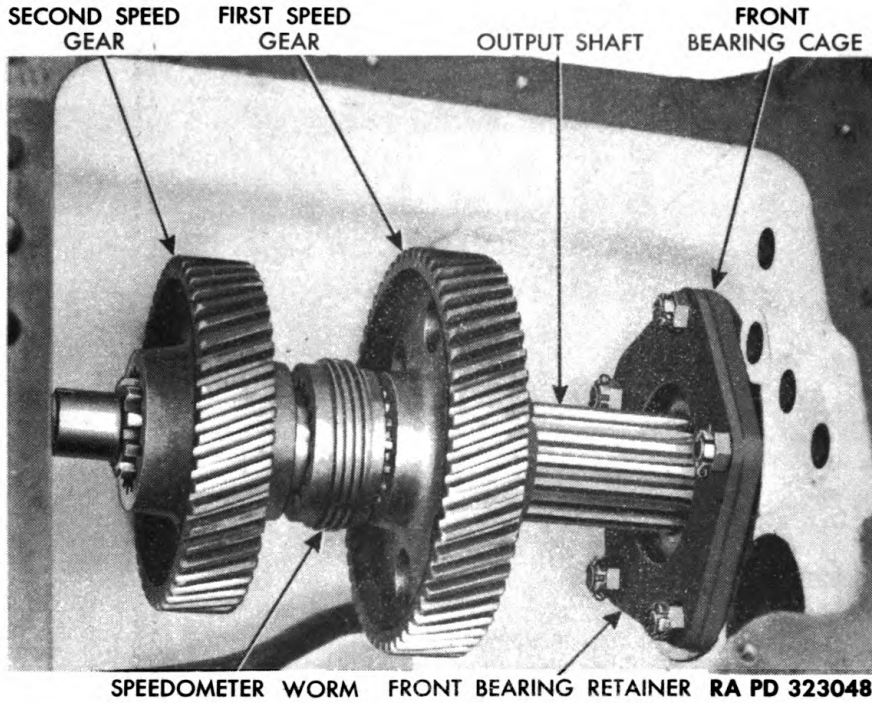
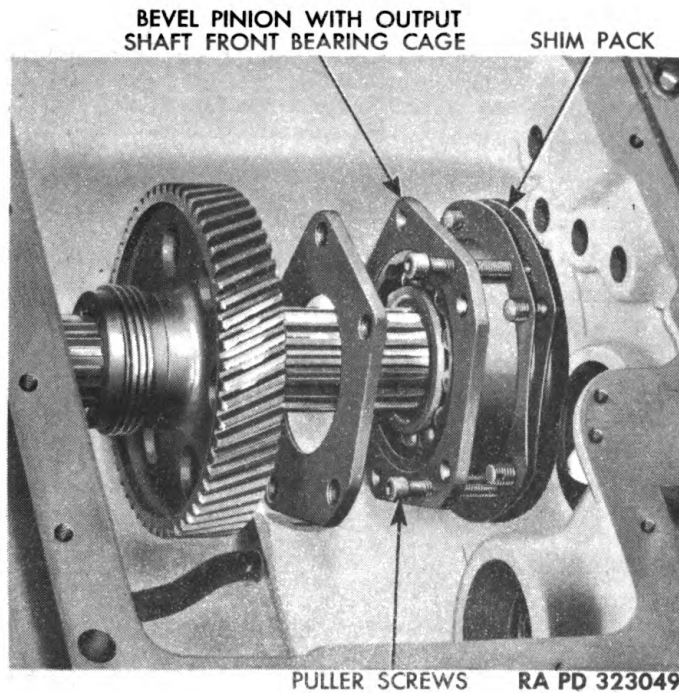
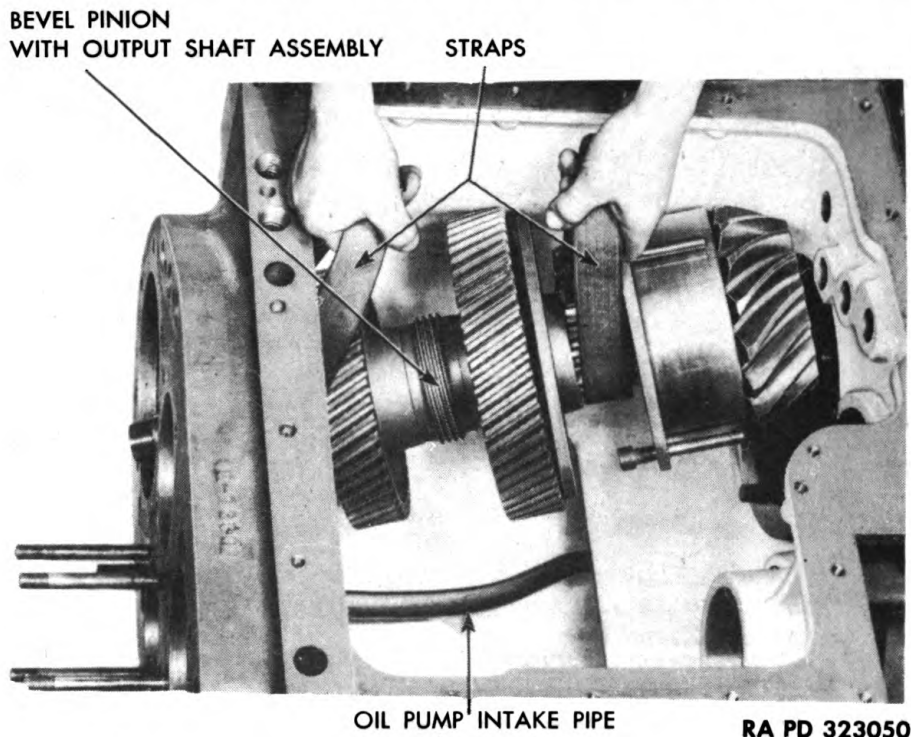

Figure 48 — Output Shaft Installation
Figure 49 — Pulling Transmission Output Shaft Front Bearing Cage
Figure 50 — Removing Output Shaft Assembly
nut lock, and remove nut from end of shaft. Remove rear bearing by striking against teeth of third speed gear with a soft hammer. Slide fourth speed gear, third speed gear, and spacers off shaft. Slide second speed gear, speedometer worm gear, and first speed gear toward end of shaft. Remove five cotter pins and nuts from bolts securing front bearing retainer and cage to transmission case (fig. 48). Insert three puller screws ($\frac{1}{2}$ NC-2 x $3\frac{1}{2}$) in tapped holes in front bearing cage. Remove bearing cage by screwing in evenly on three puller screws (fig. 49). Place one strap or rope around shaft next to front bearing cage, and one strap or rope around rear end of shaft. Lift output shaft assembly out of transmission case (fig. 50). Be sure to wire the shim pack together as soon as it is removed, so that there is no possibility of losing a shim. Slide second speed gear, speedometer worm, and first speed gear off output shaft. Place bearing cage with front bearing and output shaft in arbor press (fig. 51), and press shaft out of bearing. Tap bearing out of cage.
(1) Press front bearing into cage. Press output shaft into bearing (fig. 57). Be sure shoulder in back of pinion is tight against inner race of bearing. Slide front bearing retainer first speed gear, speedometer worm, and second speed gear onto shaft (fig. 58). **NOTE:** *Long hub of second speed gear must be toward threaded end of shaft.* Place one strap or rope around shaft in front of first speed gear, and another strap or rope around rear end of shaft; lower shaft into transmission case (fig. 50).
(2) Line up bearing cage with bolt holes, and start bearing cage into transmission case. Insert four bearing cage attaching bolts through the transmission oil screen hole in front of differential and final drive housing. One bolt cannot be removed or installed unless the differential assembly is removed. Slip shim pack around bearing cage and onto bolts so that opening is toward left side of case. **NOTE:** *If the same matched output shaft with bevel pinion and bevel drive gear set, and the same transmission case and differential and final drive housing are used again, install same thickness of shims as were removed. If a new transmission case is installed, refer to paragraph 5 a.*
(3) If a new matched bevel pinion and bevel drive gear set is to be installed, compare the numbers following the letter "C" on front face of old and new pinions. All bevel pinions and bevel drive gears are run in a gear-testing machine at the factory to determine the proper
(4) Strike end of shaft to drive bearing cage against inside of case. Install bearing retainer on bolts. Install and securely tighten five nuts on bolts attaching bearing retainer and cage to case (fig. 48). Before proceeding with assembling the transmission, install a new bevel drive gear in the differential, and adjust correct backlash between bevel pinion and drive gear (par. 16 d). Also preload differential bearings at the same time. Check tooth contact (subpar. d). Install five cotter pins in bolts.